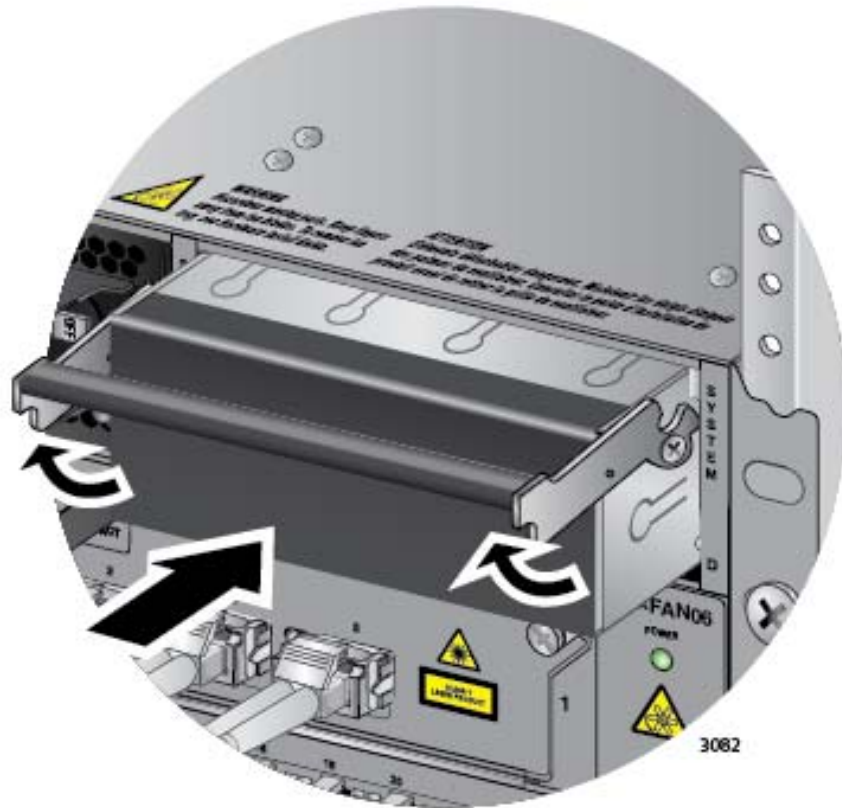

Figure 180. Installing a Blank Power Supply Slot Cover
13. Place the locking handle on the slot cover in the up position and slide the cover into the empty power supply slot. Refer to Figure 180 on page 296.